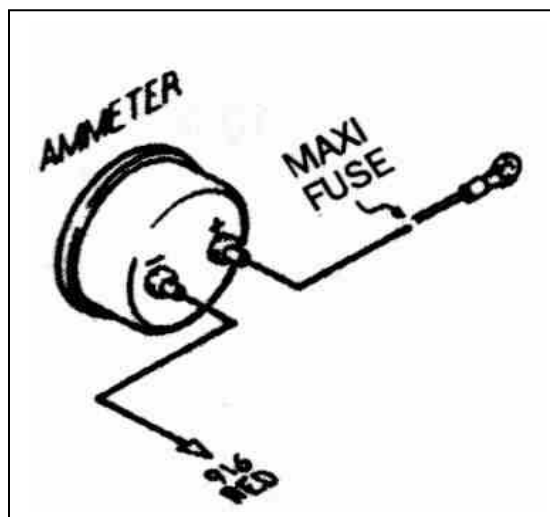

Figure 5-2 Ammeter & Maxi Fuse
5.3 Connecting an Ammeter and the Maxi Fuse. See Figure 5-2.